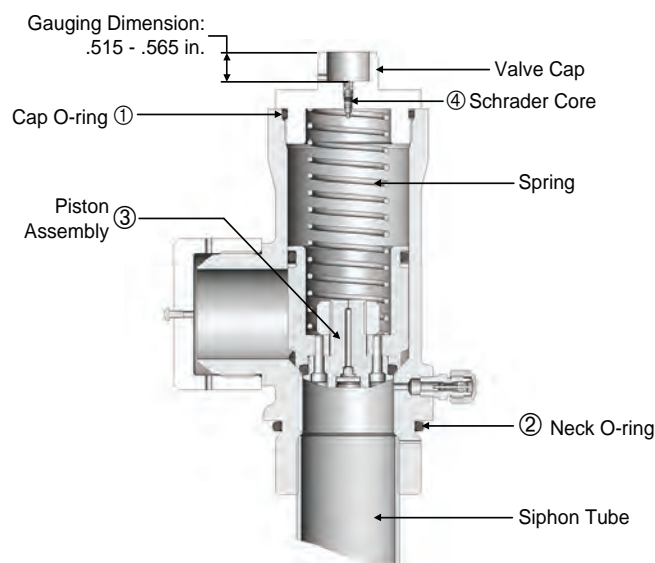

Figure 1. Valve Assembly
2. Remove the cylinder neck O-ring (Item 2 in Figure 1) and discard the O-ring.
**After reinstalling a Schrader core, the distance from the top of the core pin to the control head seating surface must fall between the dimensions of 0.515 in to 0.565 in (13 mm to 14 mm) when in the "shut" or non-actuated position (see Figure 1).**
**Note:** The items refer to Figure 1.